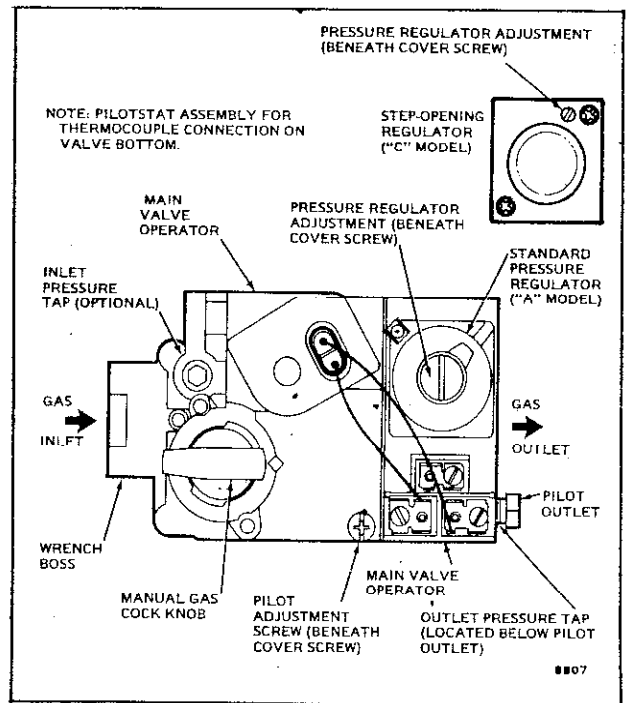

Fig. 1—Top view of VR800 gas control.
Fig. 1 shows the top view of "A" models with a standard pressure regulator. The step-opening pressure regulator for "C" models is also shown. "D" and "E" model pressure regulators are shown in Figs. 5 and 6. On "B" models, a blank plate replaces the pressure regulators.
2. Install the control so that gas supply is connected to the end provided with projecting boss for wrench application. See Fig. 1.
The thermocouple connection (to the Pilotstat control power unit—see Fig. 1) is an electrical connection and must be clean and dry. Never use pipe compound. Tighten only 1/4 turn beyond finger tight to give good electrical continuity.
The Lite-Rite gas cock knob (Fig. 1) has three settings:
The pilot flame should envelop 3/8 to 1/2 in. [9.5 to 12.7 mm] of the tip of the thermocouple. Remove pilot adjustment cover screw (Fig. 1). Turn inner adjustment screw clockwise to decrease or counterclockwise to increase pilot flame. *Be sure to replace cover screw after adjustment to prevent possible gas leakage.*
1. Check input to main burner by clocking gas meter or by using a pressure gauge (manometer) connected to downstream tapping (Fig. 1). The standard natural gas model is factory-set at 3.5 inches wc [0.87 kPa] outlet pressure and the standard LP gas model is set at 11 inches [2.73 kPa]. If adjustment is required, proceed with step 2.
2. Remove cover screw (see Fig. 1). Using screwdriver, turn adjusting screw clockwise  to increase or counterclockwise  to decrease gas pressure to burner. (NOTE: Adjustment fitting is plastic and may require slightly greater turning force than metal thread.) Replace cover screw.
1. With main burner off, connect pressure gauge (manometer) to downstream pressure tapping (Fig. 1).
1. With main burner operating, check input by clocking gas meter, or check burner manifold pressure using pressure gauge (manometer) connected to downstream pressure tapping (Fig. 1).
2. If adjustment is required, remove cover screw (Fig. 1). Using a small screwdriver, turn adjusting screw clockwise  to increase or counterclockwise  to decrease gas pressure to burner. Replace cover screw.
a. With burner operating, check gas input by clocking gas meter, or check burner manifold pressure using pressure gauge (manometer) connected to downstream pressure tapping (Fig. 1).